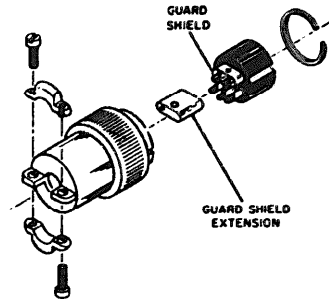

Figure c-1. Input Connector Wiring Diagram
a. Supplied with the power supply accessories is a 5 pin connector 1251-1895 which mates with the power supply rear input connector. Connector wiring is shown in figure C-1. Connector construction is shown in figure C-2.
- (1) Disassemble the input connector by removing the retaining ring on the face of the connector.
- (2) Remove the guard extension shell from around the signal terminals (A & B). A guard connection is not used with this preamplifier.
- (3) Slip the connector shell over the signal leads with the connector clamp facing away from the lead ends.
- (4) Connect the signal + lead to pin A, and the signal - lead to pin B.
- (5) Connect signal cable shield to pin C. Connect a jumper wire between C and the guard shield, as shown in figure C-1.
- (6) Slip the connector shell over the connector, replace the retaining ring, and tighten the connector clamp as desired.
- (7) Connect the signal cable to the appropriate input connector at the rear of the power supply.